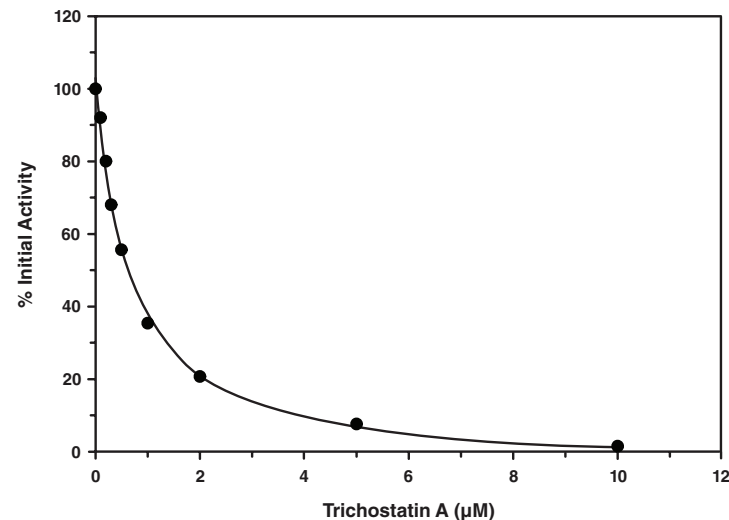

Figure 3. Inhibition of HDAC8 by Trichostatin A ( $IC_{50} = 0.6 \mu\text{M}$ )
4. When multiple concentrations of inhibitor have been assayed it is possible to either graph the Percent Inhibition or Percent Initial Activity as a function of the inhibitor concentration to determine the  $IC_{50}$  value (concentration at which there was 50% inhibition). An example of HDAC8 inhibition by Trichostatin A is shown in Figure 3, on page 15.